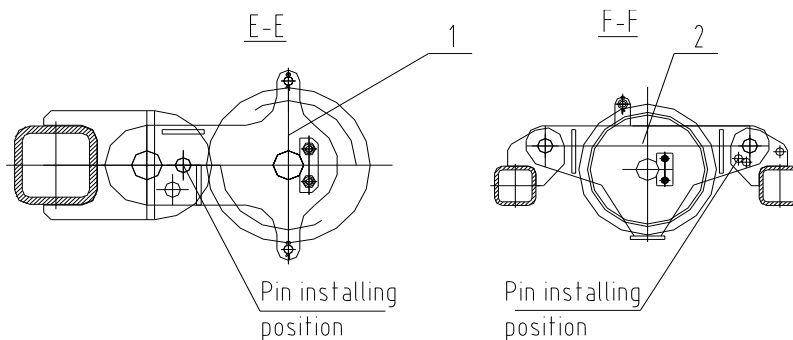

Fig. 4-28 State of the hoisting and trolley pulleys after installed
- When installing the hoisting and trolley pulleys of the Jib I , adjust them to the after-installed state. Otherwise, the hoisting and trolley ropes will wear the incline diagonal or the rope-block rod as the Fig. 4-28.